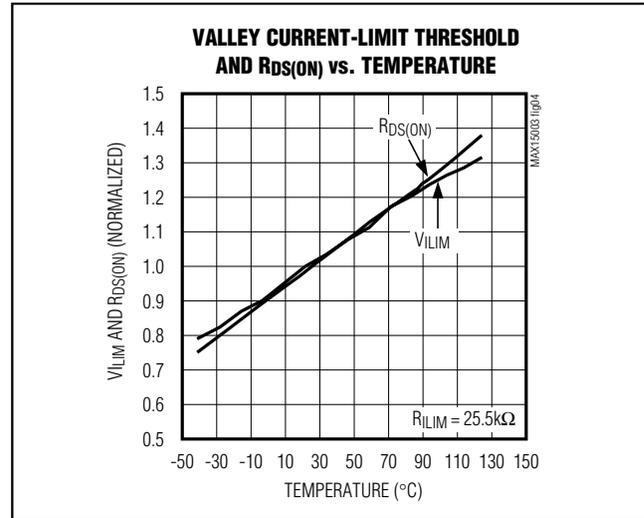

Figure 4. Current-Limit Trip Point and VRDS(ON) vs. Temperature
Figure 4 illustrates the effect of the MAX15003 ILIM reference current temperature coefficient to compensate for the variation of the MOSFET RDS(ON) over the operating junction temperature range.